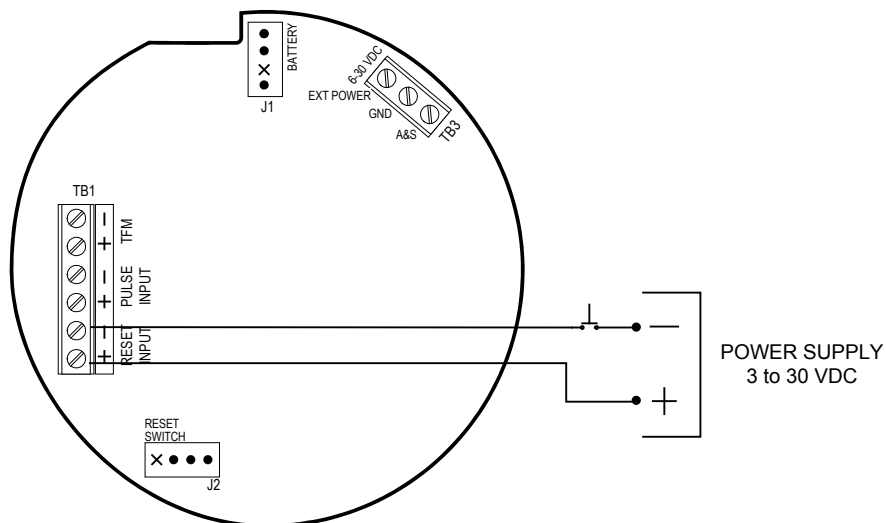
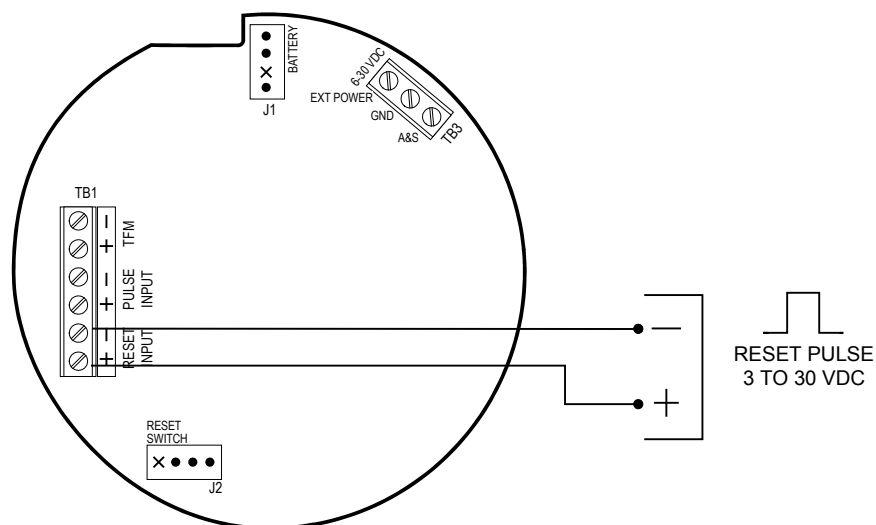

Figure 2.10—Reset input wiring (switch/power supply)
Figure 2.11—Reset input wiring (pulse)
6. Connect wiring for the remote reset input to terminal block TB1, if appropriate. See Figure 2.10 and 2.11, page 27.
The remote reset input allows the operator to reset the accumulated volume on the MC-III WP to zero without opening the enclosure. This input is optically isolated. The input is shown connected in two ways, with a power supply and switch in a remote location (Figure 2.10), and with a pulse generator in a remote location (Figure 2.11).